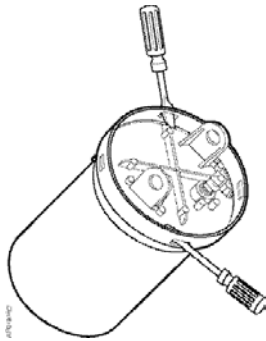

Figure 5.
10. Insert the blades of the two screwdrivers through the open slots in the lower housing to press the upper housing into place. See Figure 5.